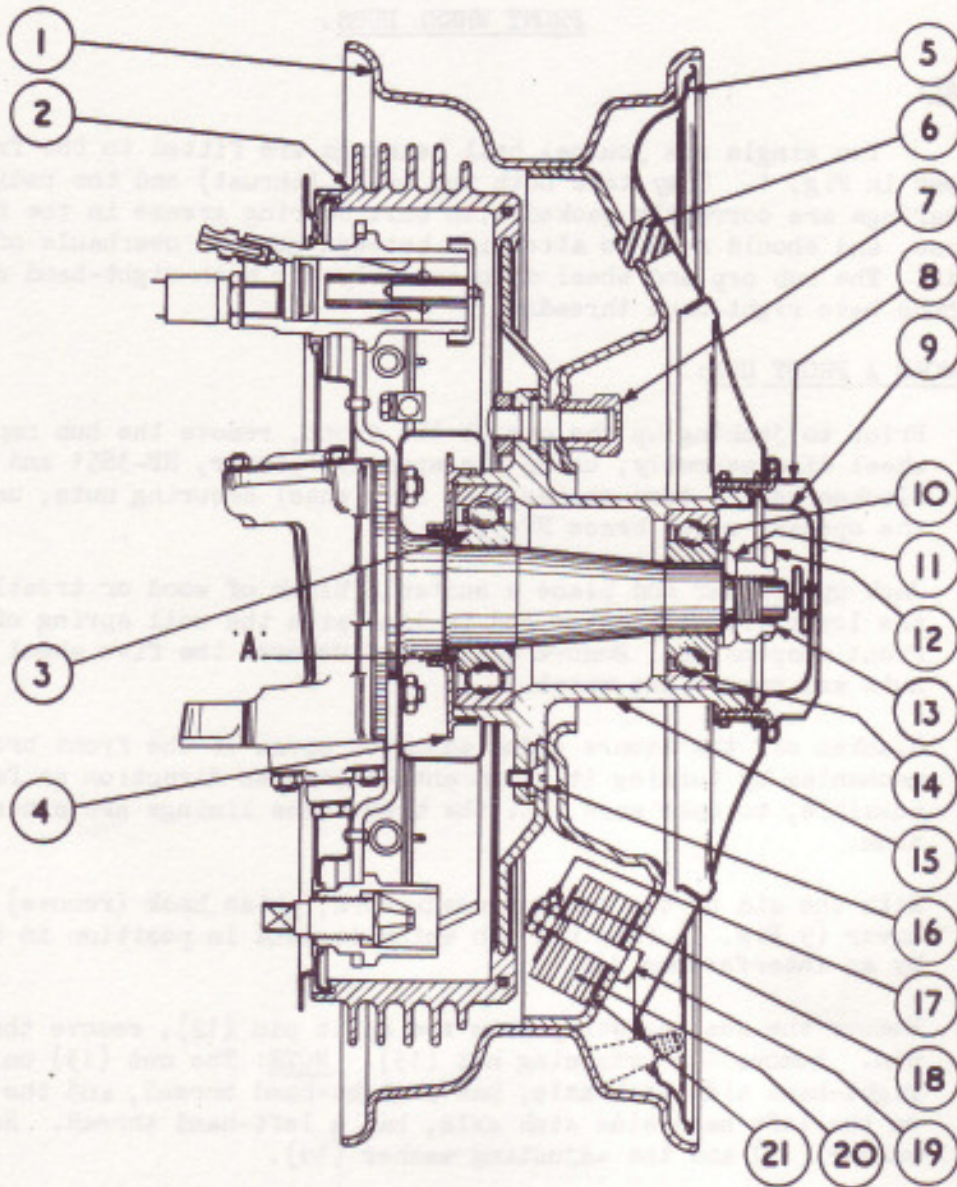

FIG. 1. SECTION THROUGH FRONT HUB.
Two single row journal ball bearings are fitted to the front hubs as shown in Fig. 1. They take both the axial (thrust) and the radial loads. The bearings are correctly packed with ball bearing grease in the first instance, and should need no attention between general overhauls of the chassis. The hub cap and wheel disc assembly for both right-hand and left-hand hubs have right-hand threads.
- (iv) With the aid of two large screwdrivers, prise back (remove) the dust cover (9 Fig. 1) from the hub which is held in position in the hub by an interference fit.
- (v) Remove the sealing strip from the split pin (12), remove the split pin. Remove the retaining nut (13). **NOTE:** The nut (13) on the right-hand side stub axle, has a right-hand thread, and the nut on the left-hand side stub axle, has a left-hand thread. Remove the washer (11) and the adjusting washer (10).
- (i) Refit the hub and brake drum assembly to the stub axle, making sure that it is driven fully home, i.e. until the face of the inner race of the inner end ball bearing (3) makes contact against the distance piece ('A' Fig.1) fitted to the stub axle. This distance piece is a press fit on the stub axle.
- (ii) Place the adjusting washer (10) so that it spigots on the end of the stub axle, then place the washer (11) in position and tighten up the retaining nut (13). **NOTE:** The adjusting washer (10) should be just rotatable by hand after the retaining nut (13) has been fully tightened. Should this not be so, then choose an adjusting washer from the range available to give the desired condition.
- (iii) With the retaining nut fully tightened, secure with a new split pin (12) of the correct size. Refit the dust cover (9).
- (v) Refit the wheel and the hub cap and wheel disc assembly. **NOTE:** The hub cap (8) is necessary only to retain the disc and should therefore not be overtightened. The correct tension is attained by giving the hub cap ONE COMPLETE TURN with the special spanner (RF-3851) after the disc has been felt to be in light contact with the rubber pads (6) on the wheel centre. There should be a small gap approximately 0.100" (2.5 mm) between the edge of the disc and the wheel. Over-tightening distorts and brings the disc in contact with the wheel, thus causing creaks and rattles.